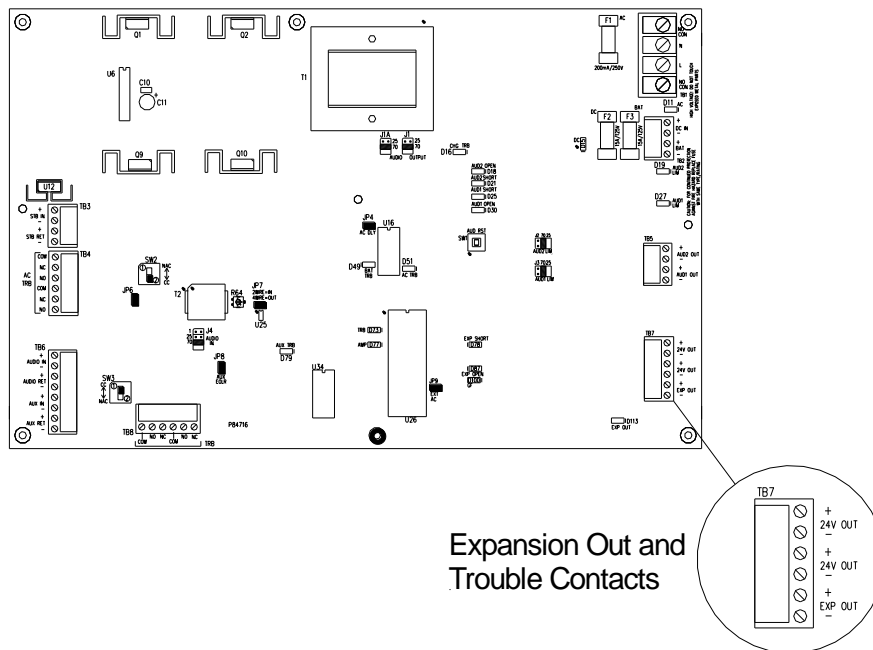

Figure 15 Alarm and Trouble Connections
The Trouble relay changes state whenever a trouble condition occurs on the Audio Booster circuit board and when the TROUBLE LED D73 lights. As shown in Figure 15, connecting to the common terminal (C) and the normally open terminal (NO) would prevent current flow through the relay contacts in the normal operating condition. A trouble condition causes the relay to switch states, allowing current to flow. When there is no power (DC IN or BATTERY) the common and normally open contacts are shorted.